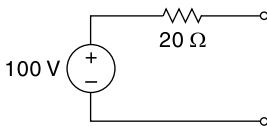

Fig. 4.66 Circuit of Ex. 4.44
4.44 Convert the constant voltage source shown in Fig. 4.66 into equivalent current